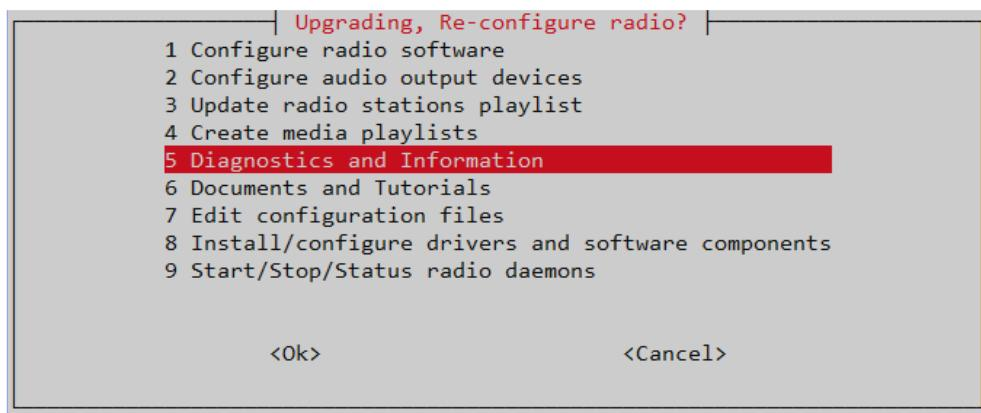

Figure 240 Diagnostics and Information menu
- Select option **1 Run the radio in diagnostic mode (nodaemon)** shown in *Figure 240 Diagnostics and Information menu* on page 200.
- Select option **2 Test rotary encoders** from the diagnostics menu. shown in *Figure 240 Diagnostics and Information menu* on page 200.
- Select option **2 Test rotary encoders** from the diagnostics menu shown in *Figure 240 Diagnostics and Information menu* on page 200.
- Select option **4 Test events layer** from the diagnostics menu shown in *Figure 240 Diagnostics and Information menu* on page 200. This displays the following output